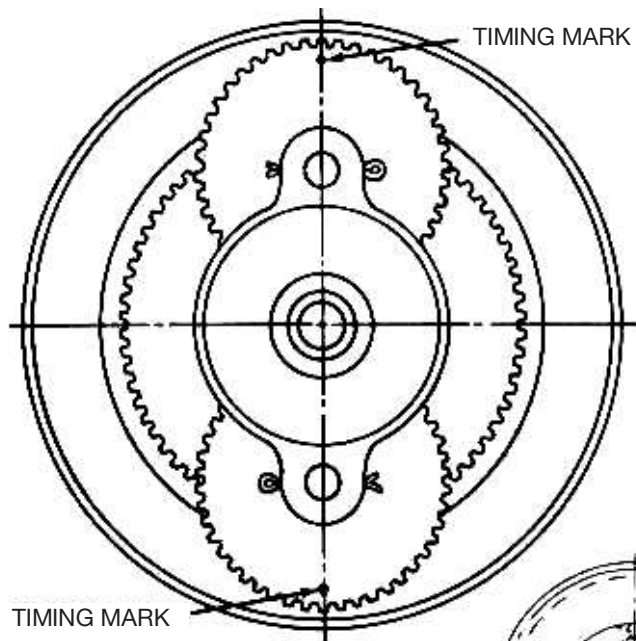

FIG. 1
2. Note the proper timing mark position of the two planet gears. See Figure 1 Page 8.
Mount planet gears in pinion cage with cotter pins in place. Align set screw hole in pinion cage with the set screw hole in the drive shaft and time the planet gears as illustrated in Fig. 1 Page 8.